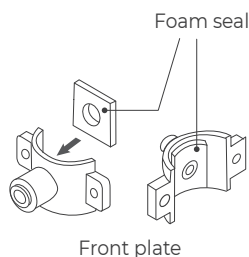

Figure 8
a. Stick the foam seal on the front plate of the drain saddle. Ensure that the hole of the foam seal is aligned with the hole of the front plate (**Figure 8**).